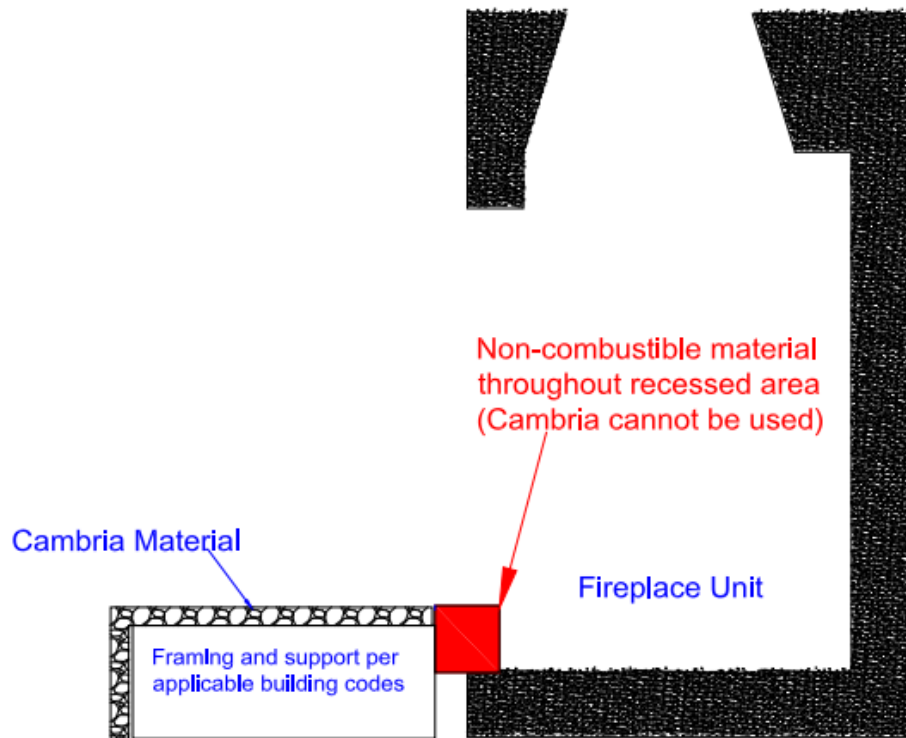

Figure 3
- c. If the fireplace is installed below the plane of the Cambria hearth, a different material must be used to ensure there is no direct or indirect heat transfer. The fireplace must be designed so that the polished face of the Cambria is recessed 1/8". **See Figure 3.**